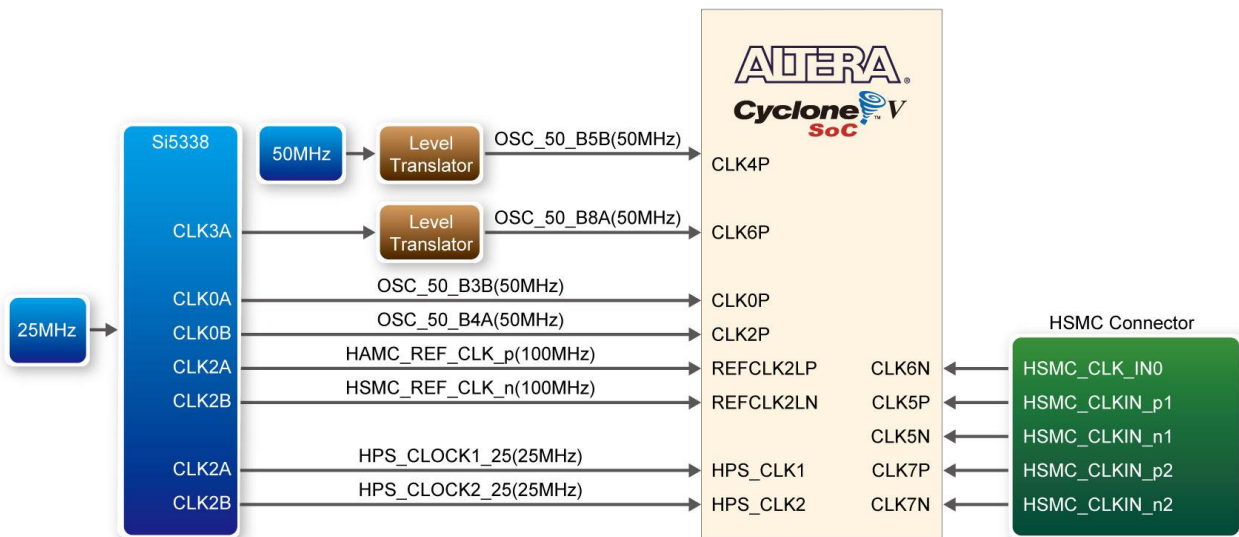

**Figure 3-9 Programming a Quad Serial Configuration Device with the SFL Solution**
- To program the configuration device, users will need to use a Serial Flash Loader (SFL) function to program the quad serial configuration device via the JTAG interface. The FPGA-based SFL is a soft intellectual property (IP) core within the FPGA that bridges the JTAG and flash interfaces. The SFL mega-function is available from Quartus II software. **Figure 3-9** shows the programming method when adopting a SFL solution